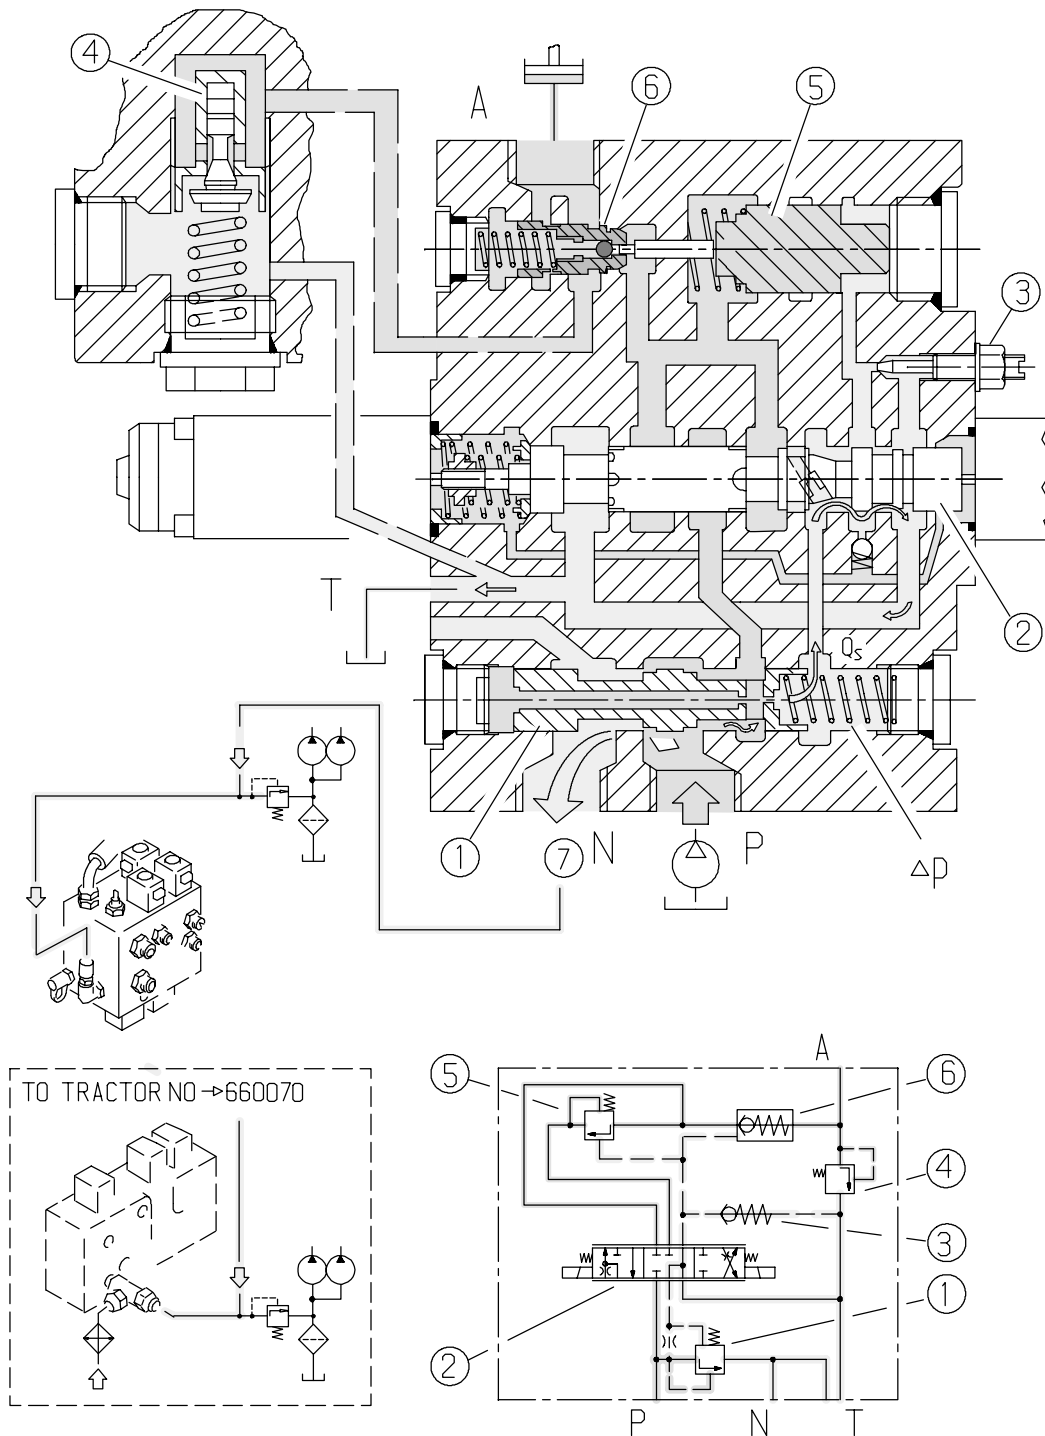

Figure 9. Control valve in neutral position
The main spool (2) is held in the middle position by the action of the centring springs (left end of spool in fig 9) The pressure (+spring) keeps the lowering valve (6) closed.